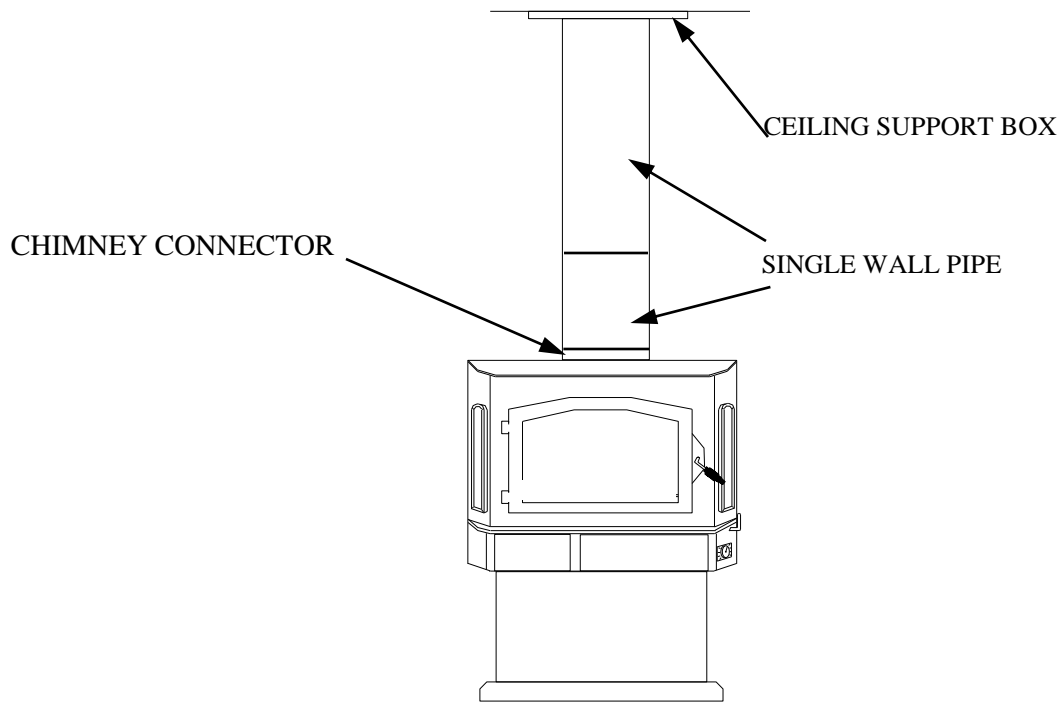

Figure 13
14. Secure outside air duct to inside bottom of pedestal using four (4) #10x1 screws provided. (See Figure 13).
5. Using single wall chimney connector, connect heater to chimney by following manufacturer’s installation instructions exactly. (See Figure 13).